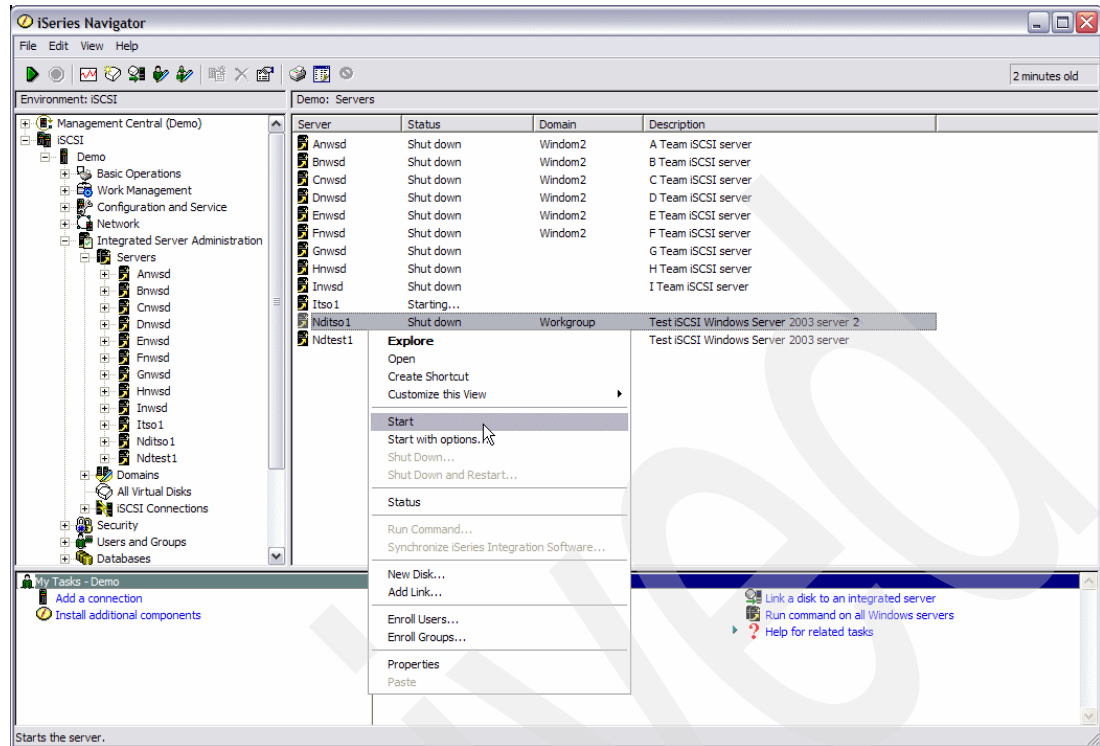

Figure 6-78 Start one integrated server
2. Right-click the integrated server to start (shutdown status), select **Start**. See Figure 6-78 on page 228.